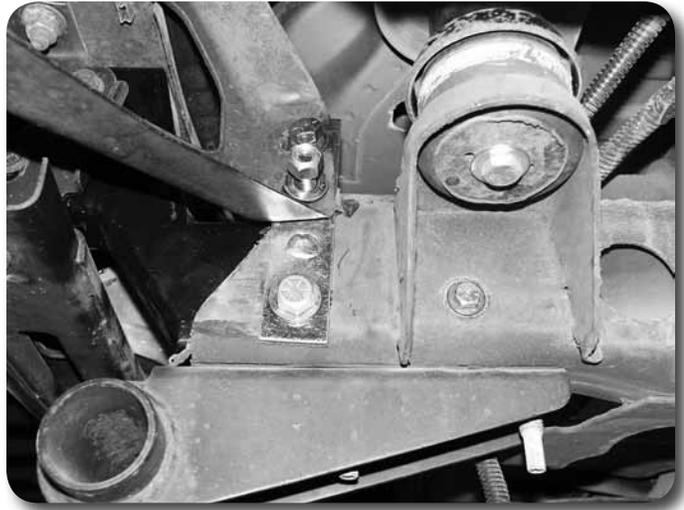

Figure 43
96. Install a  $\frac{1}{2}$ " x 1-1/4" bolt, nut and  $\frac{1}{2}$ " SAE in the top hole of the outside relocation bracket/factory outside bracket. Install a  $\frac{9}{16}$ " x 1-3/4" bolts (Loctite on threads) and  $\frac{9}{16}$ " SAE washer in the lower relocation bracket hole, through the frame and into the welded nut in the new bracket **Figure 43**. Leave all hardware loose.